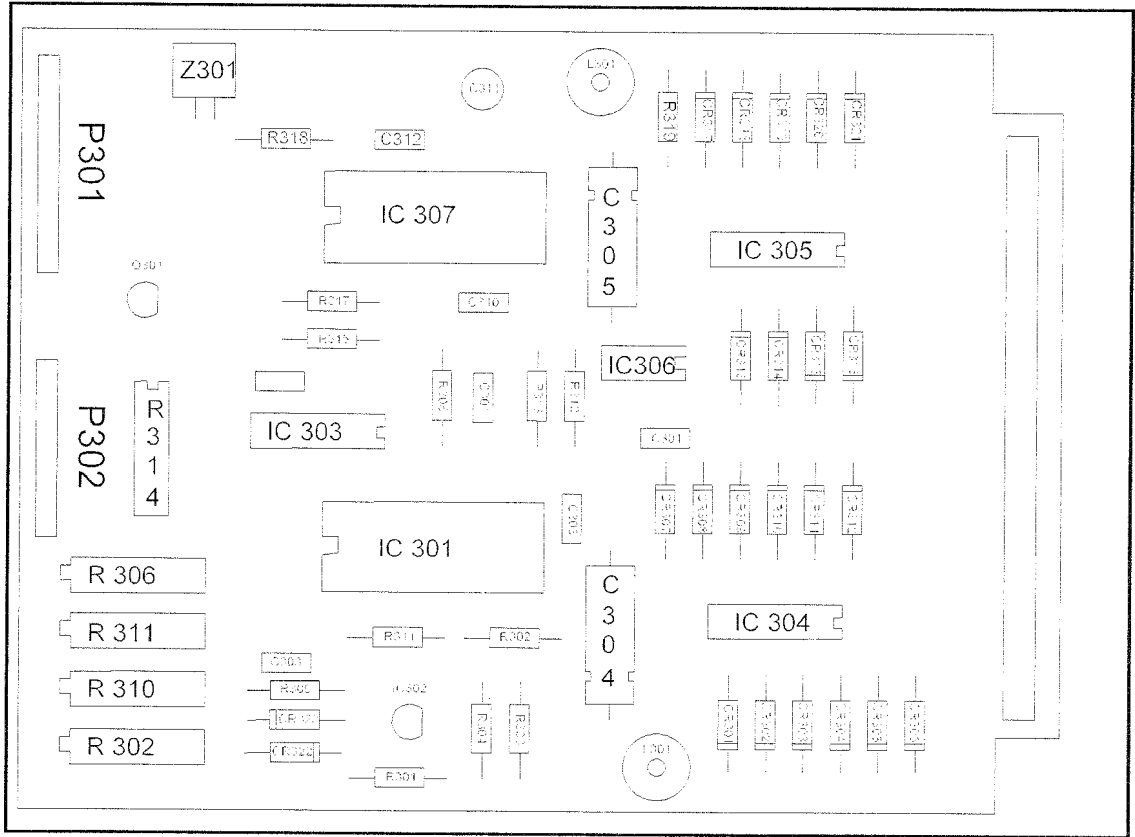
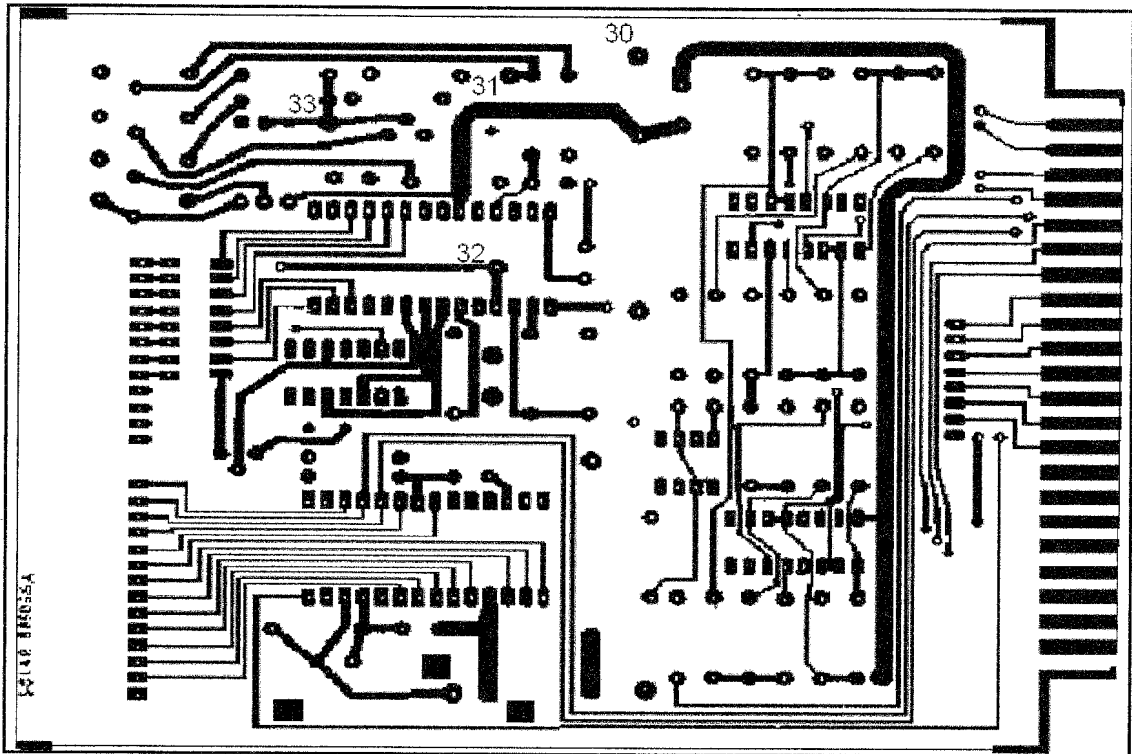

Figure 8 Display Board 885056 component side
Figure 9 Display Board solder side
Set test point TP-33 in Figure 9 to 2.499 VDC by adjusting trimpot R310 in Figure 8.
Set test point TP-32 in Figure 9 to 1.99 VDC by adjusting trimpot R306 in Figure 8.
7.6.2 Adjust meter to read 1.00 volts RMS by adjusting trimpot R311 in Figure 8. If you are unable to bring the voltmeter to the correct reading, adjust R306 on the display board.
7.6.5 Adjust high R.M.S. VOLTS OUT meter to read 20.00 by adjusting trimpot R302, Figure 8. If you are unable to bring the voltmeter to the correct reading adjust R306, Figure, 8 on the display board until the correct reading is achieved.